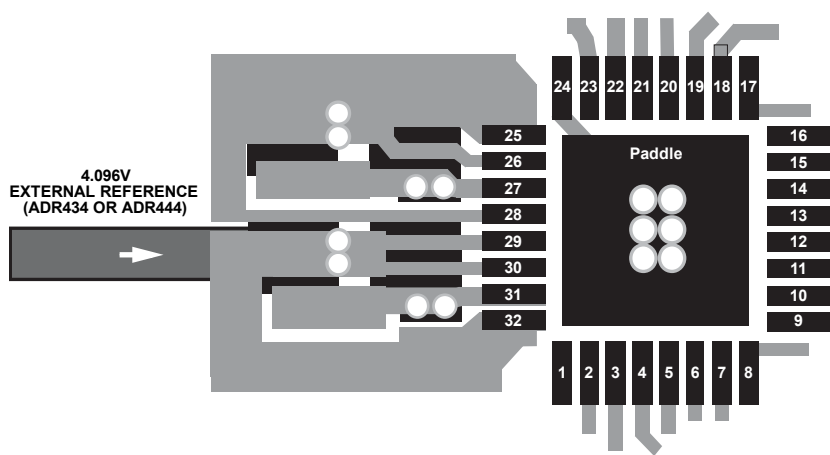

Figure 34. PCB Layout and Decoupling Recommendations for Pin 24 to Pin 32
- Connect the paddle to the ground plane of the board using multiple vias, as shown in Figure 34.
Figure 34 shows an example of the recommended layout for the underside of the AD7626 device. Note the extended signal trace connections and the outline of the capacitors decoupling the signals applied to the REF pins (Pin 29, Pin 30, and Pin 32) and to the CAP2 pins (Pin 25, Pin 26, and Pin 28).